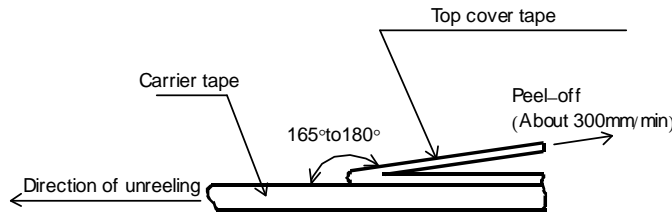

Figure-10
- 5). The peel strength of the top cover tape shall be within 0.1N to 0.5N on the test method as shown in the following RMC1/32, 1/20: Figure-10, RMC1/16S, 1/16, 1/10, 1/8: Figure-11, RMC1/4, 1/2, 1: Figure-12.